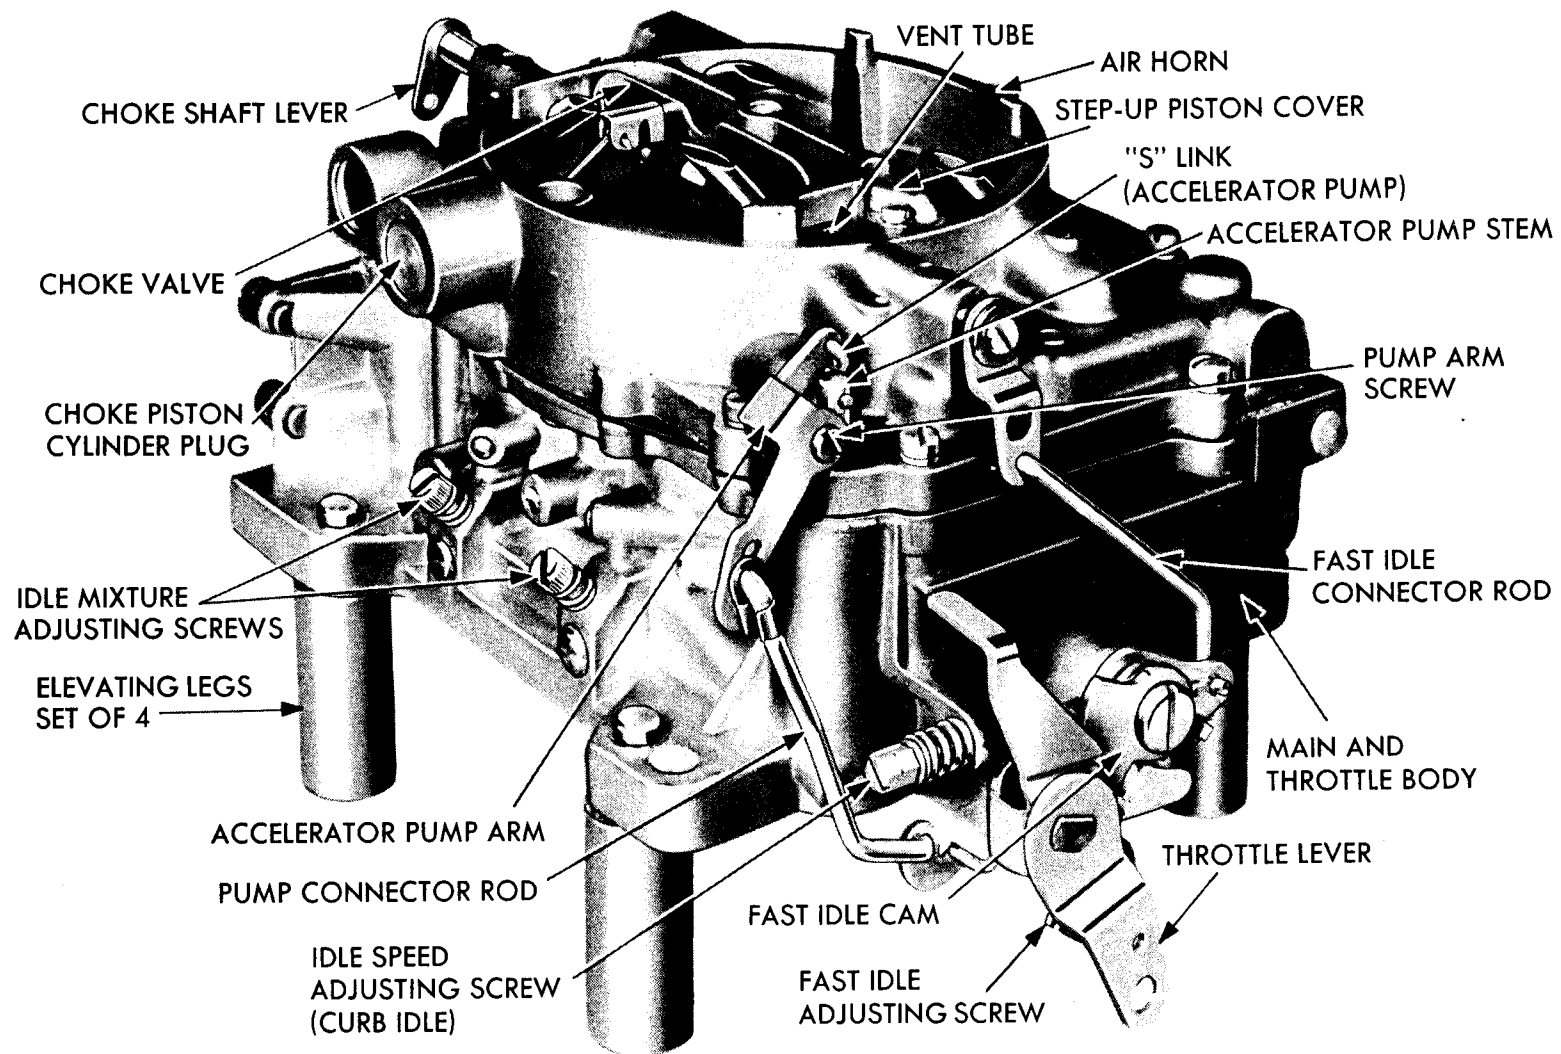

Figure 16 — Carter Carburetor Assembly AFB-3134S
The Carter Model AFB 3134S carburetor is basically two (2) dual carburetors contained in one assembly. (Fig. 16) The section containing the metering rods, accelerating pump and choke is termed the primary side of the carburetor, the other section, the secondary side. It has five (5) conventional systems, as have been used in previous carburetors. They are: